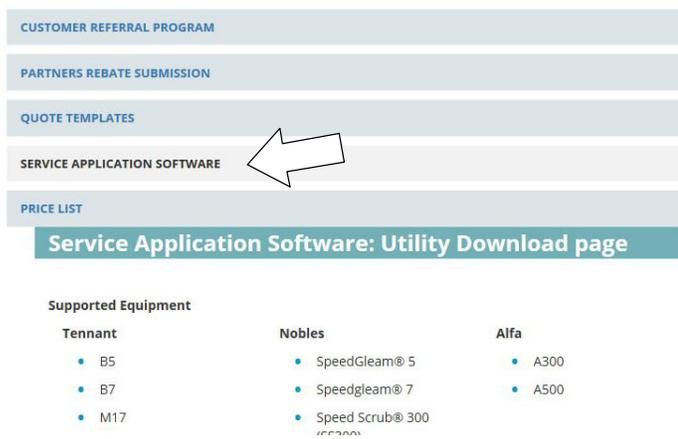

Fig. 33
3. Click on the “SERVICE APPLICATION SOFTWARE” link as shown below (Figure 33).